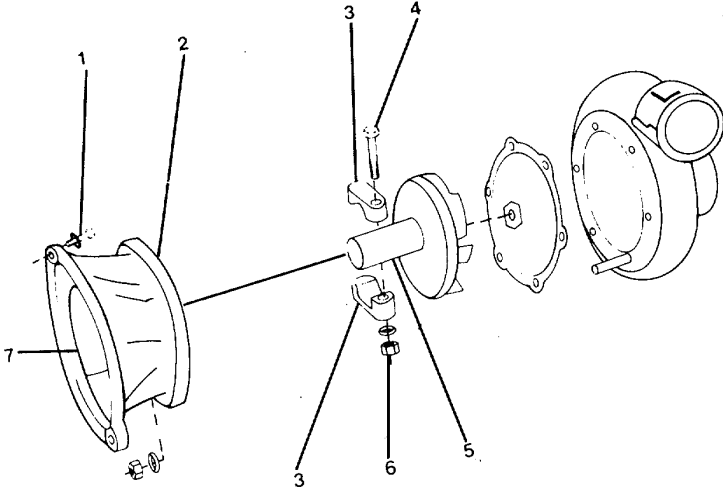

Figure 2-19. Centrifugal Pump.
- (1) Remove four bolts and washers (1, FIGURE 2-19) that hold the pump adapter (2) to the motor.
- (2) Loosen two bolts (4) and nuts and washers (6) on the shaft drive clamp (3) through the opening (7) in the side of the adapter.
- (3) Slide shaft sleeve (5) and adapter from the shaft of the motor. The pump is now free from the motor.
- (1) Make sure the shaft is clean.
- (2) Insert the motor shaft through the adapter (2, FIGURE 2-19) and into the shaft sleeve (5). Maintain pressure against the impeller shaft sleeve through the inlet opening in the pump until the drive clamp bolts (4) are secure.
- (3) Tighten two bolts (4) and nuts and washers (6) in the drive clamp assembly (3) through opening (7) in the adapter (2). Tighten to 200 in-lb.
- (4) Install four bolts and washers (1) that mount the adapter (2) and pump to the motor housing. Tighten bolts to 34 ft-lb.
- g. Remove the pump from the motor as follows: (Refer to FIGURE 2-19).
- (1) Remove the four bolts and washers (1, FIGURE 2-19) that hold the pump adapter (2) to the motor.
- (2) Loosen the two bolts (4) and nuts and washers (6) on the shaft drive clamp (3) through the opening in the adapter (7).
- (3) Slide the shaft sleeve (5) and adapter (2) from the shaft of the motor. The pump is now free from the motor.
- a. Mount the pump to the motor as follows: (Refer to FIGURE 2-19).
- (2) Insert the motor shaft through the adapter (2) and into the shaft sleeve (5,). Maintain pressure against the impeller shaft sleeve (5) through the inlet opening in the pump until the drive clamp bolts (4) are tightened.
- (3) Tighten the two bolts (4) and nuts and washers (6) in the drive clamp assembly (3) through the opening (7) in the adapter. Tighten to 200 in-lb.
- (4) Install the four bolts and washers (1) that mount the adapter (2) and pump to the motor housing. Tighten to 34 ft-lb.